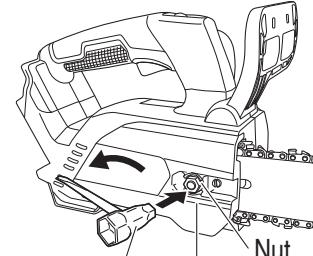

Fig. 11
1. Removing the side cover (Fig. 11)